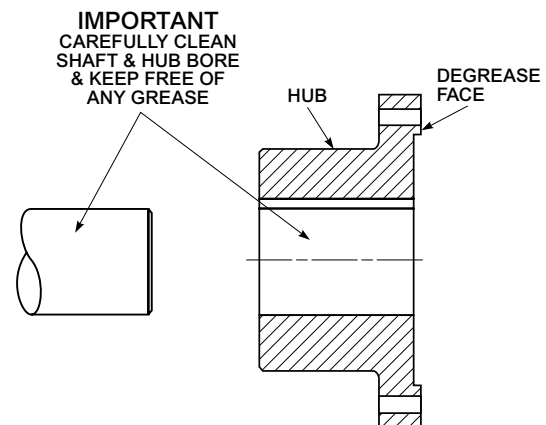

Figure 2
1. Thoroughly clean, degrease, and dry coupling hub flange mounting faces, drive and driven shafts. Clean with a non-flammable solvent. See Figure 2.